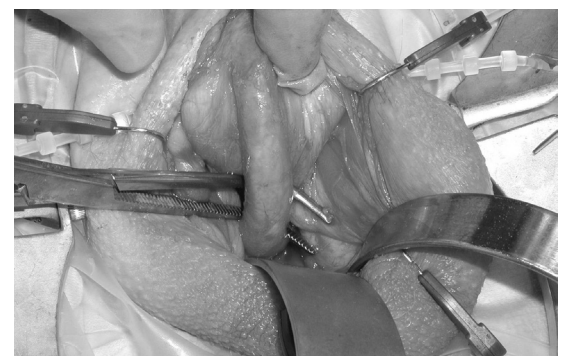

Figure 4-19.
8. Because the patient is in the supine position, the urethra is mobile and a right angle clamp can be used to conduct the posterior dissection of the urethra almost under direct vision. The right angle clamp is spread to create sufficient space for the placement of the occlusive cuff. (**Figure 4-19**)